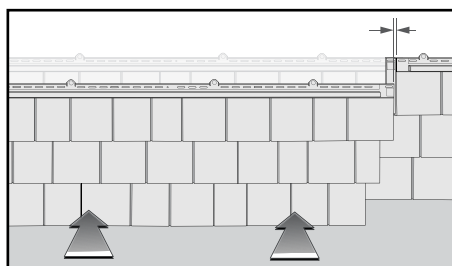

figure 4
4. Install the next panel by positioning it below the starter strip and next to the first panel. Push in figure 4. Space the second panel according to the panel temperature at the corresponding to position panel into place. Gently tap the outside of the HammerTapper™ ribs to properly position the panel left or right.